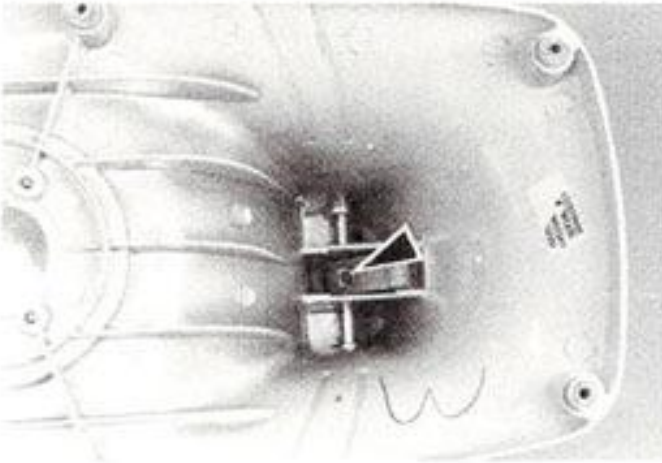

Fig. 72
- A. If pedestal were removed, check the hinge pin. If it is galled from failure to loosen the setscrew, replace it (Fig. 72). Loosen the setscrew so that it will clear the hinge pin. Place the new hinge pin in the pedestal, but do not drive it in.
- E. With a screwdriver, reach up inside pedestal and tighten the hinge pin setscrew (Fig. 72).